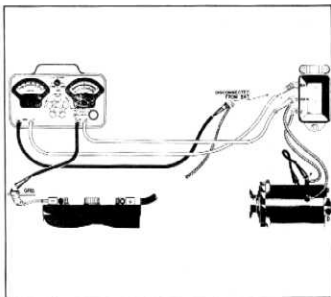

Fig. 15—Volt-Ammeter Connection for Checking Circuit Breaker
3. Connect positive lead of ammeter to battery terminal of regulator and negative lead to the battery wire (fig. 15).